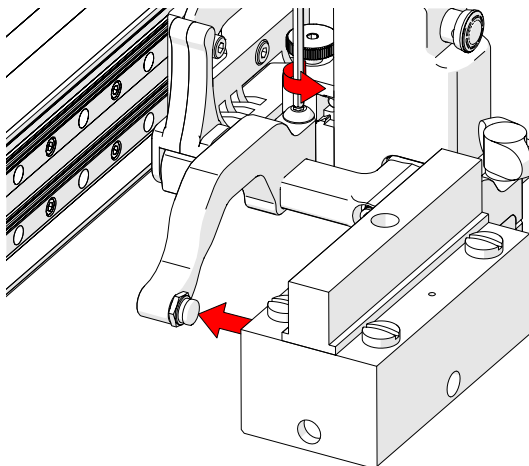

Fig. 112 - Adjust inner arm
4. Loosen the arm clamp screw (Fig. 112).